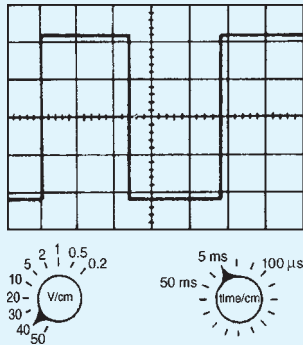

Figure 10.21
1. For the square voltage waveform displayed on an oscilloscope shown in Fig. 10.21, find (a) its frequency, (b) its peak-to-peak voltage.